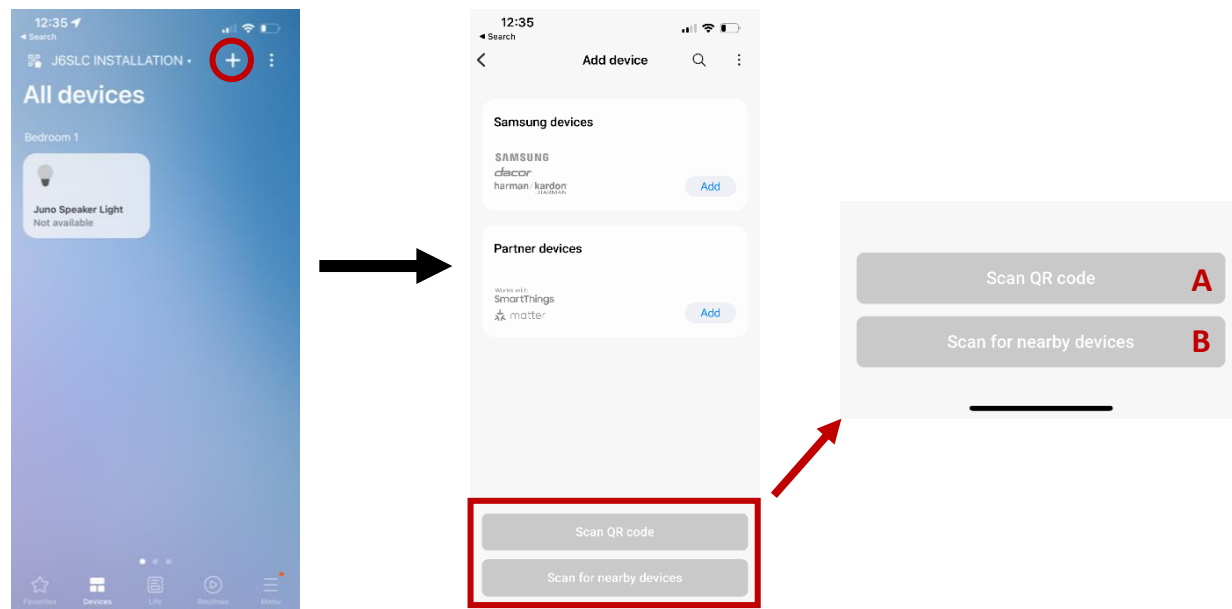

Figure 6
4.4 For each fixture installed, connect the fixture to the SmartThings app by selecting the “+” sign on the top right corner of the interface and select “add device”. Use one of the methods below to connect the fixture. (Figure 6)